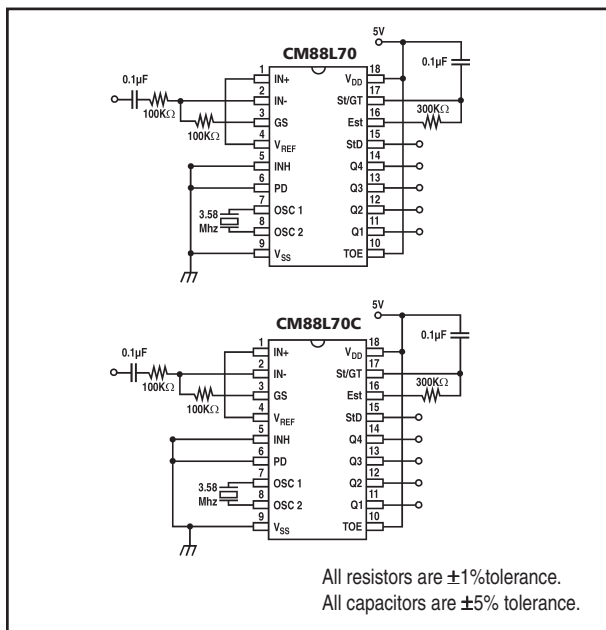

Figure 1. Single Ended Input Configuration
AC Characteristics: All voltages referenced to V_{SS} , $V_{DD}=3.0V + 20\% / -10\%$, $T_A=-40^{\circ}C$ to $+85^{\circ}C$, $f_{CLK}=3.579545$ MHz using test circuit (Fig. 1) unless otherwise noted.
14. Referenced to Figure 1. Input DTMF tone level at -28 dBm.
The value of t_{DP} is a parameter of the device and t_{REC} is the minimum signal duration to be recognized by the receiver. A value for C of 0.1 uF is recommended for most applications, leaving R to be selected by the designer. For example, a suitable value of R for a t_{REC} of 40 milliseconds would be 300K. A typical circuit using this steering configuration is shown in Figure 1. The timing requirements for most telecommunication applications are satisfied with this circuit. Different steering arrangements may be used to select independently the guardtimes for tone-present (t_{GTP}) and tone absent (t_{GTA}). This may be necessary to meet system specifications which place both accept and reject limits on both tone duration and interdigit pause.
In a single-ended configuration, the input pins are connected as shown in Figure 1, with the op-amp connected for unity gain and V_{REF} biasing the input at $1/2 V_{DD}$. Figure 6 shows the differential configuration, which permits the adjustment of gain with the feedback resistor R5.